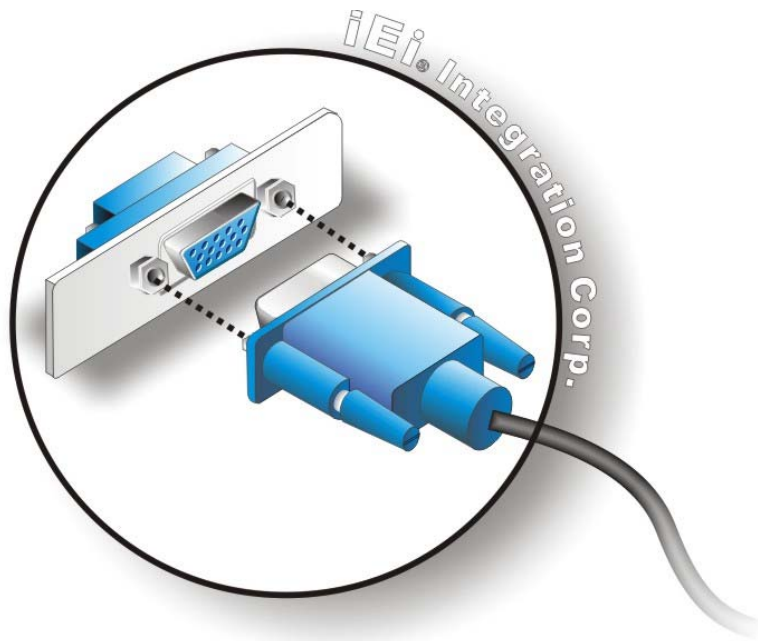

Figure 4-22: VGA Connector
- Step 3: Insert the VGA connector** Once the connectors are properly aligned with the insert the male connector from the VGA screen into the female connector on the IMBA-C2260-i2. See **Figure 4-22**.